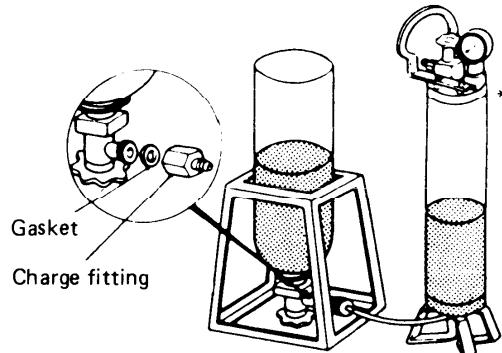

Fig. 22
* If cylinder has not yet been filled, move at least one pound of refrigerant (R22) to the charging cylinder. Fig. 22.